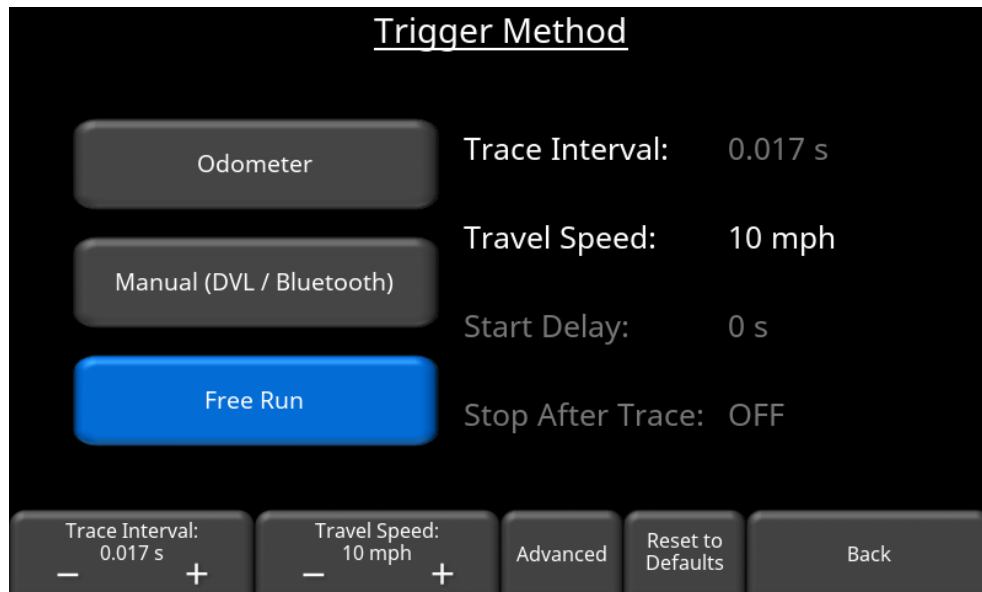

Figure 6-19: Free Run Trigger method
- **Free Run** - In some cases, collecting data with an odometer is not practical or even possible, for example when collecting from a boat. Free run mode allows the system to pulse based on a specified time interval or pulse continuously. This is best for surveys in unobstructed terrain where antennas can be moved easily. For the position of each measurement point, the system assumes the operator has moved the antennas one step size along the survey line. Pressing **Free Run** will display the screen in Figure 6-19.
The user has the option to control the *trace interval* or the *travel speed*, such that the programmed step size (*distance*) is maintained. In the example in Figure 6-19, the user wants to travel at 10 mph. To maintain the set step size, the trace interval will automatically be set at 0.017s.